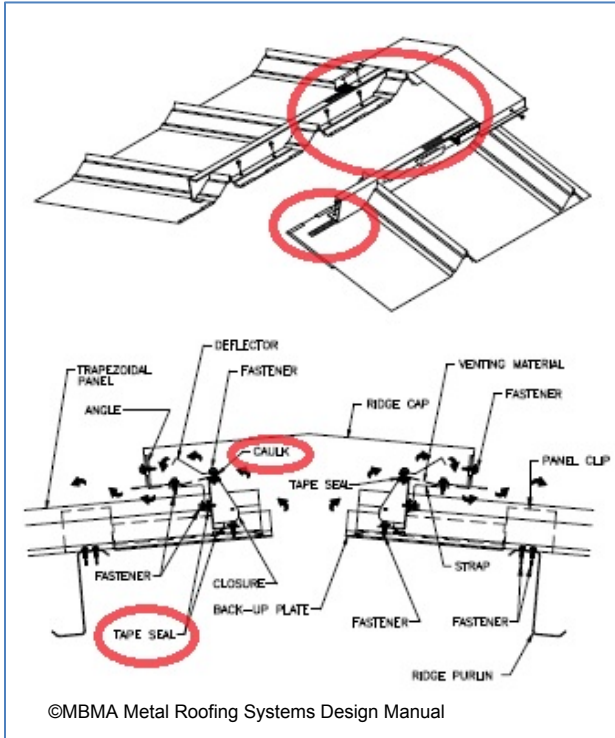

Figure 13-14
**13.6.3 Ridge (Figure 13-14)**